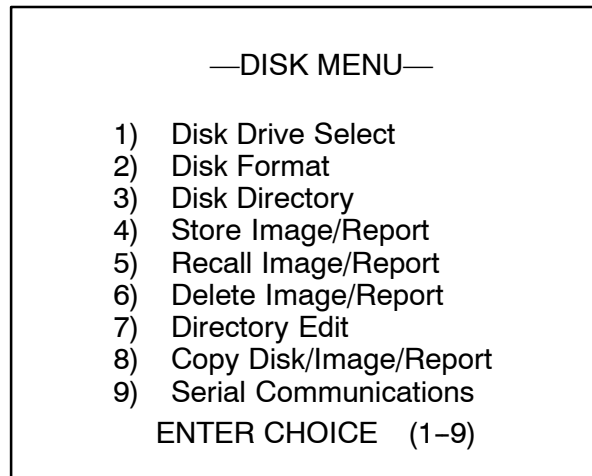

Figure 2C-3. Data Communications Disk Menu
2. Press DISK on the Freeze softkey panel or special function DISK (") on the hardkey keyboard. The Disk Menu should be displayed on the system monitor (see Figure 2C-3).